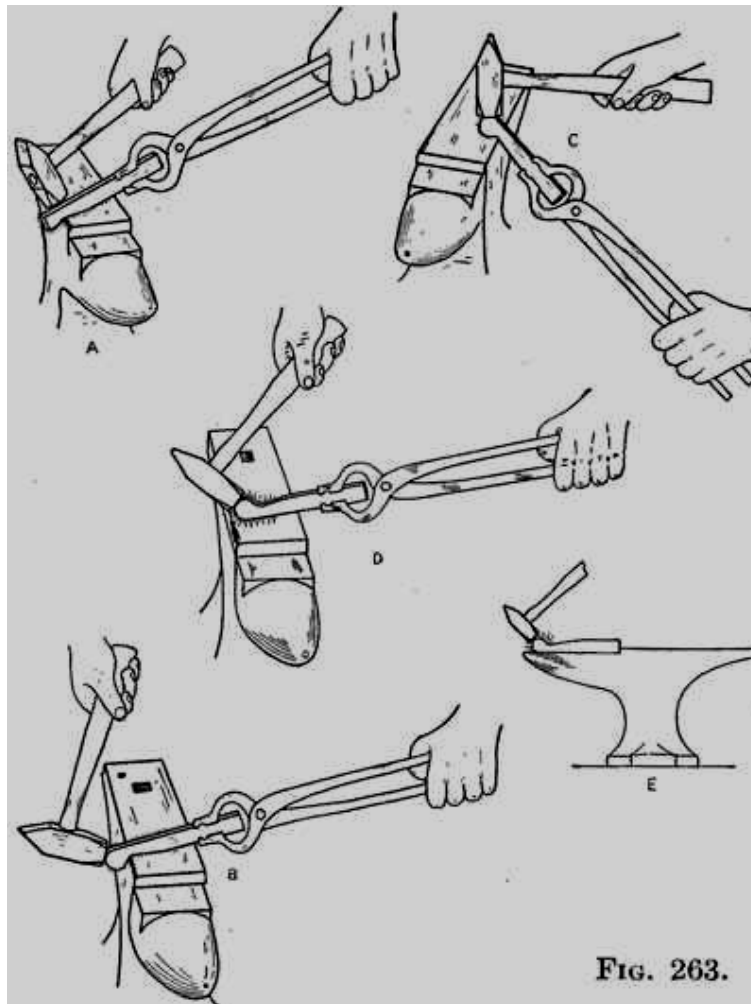

FIG. 263.
After upsetting, the end is shaped and the corners are rounded before punching. This can best be done by forming a neck or shoulder just -back of the eye by hammering over the far edge of the anvil, as shown in Fig. 263A. The end is then further shaped and the corners rounded by working over the anvil as suggested in the various other views of Fig. 263. Having the end thus shaped, the hole may be punched in the usual fashion.
Fig. 263.-Forming a shoulder or neck, preparatory to punching a hole for an eye. The iron is first driven down against a corner of the anvil, as shown at (A). The end of the piece is then shaped and rounded by working over the corners and the horn of the anvil, as suggested in the various other views.